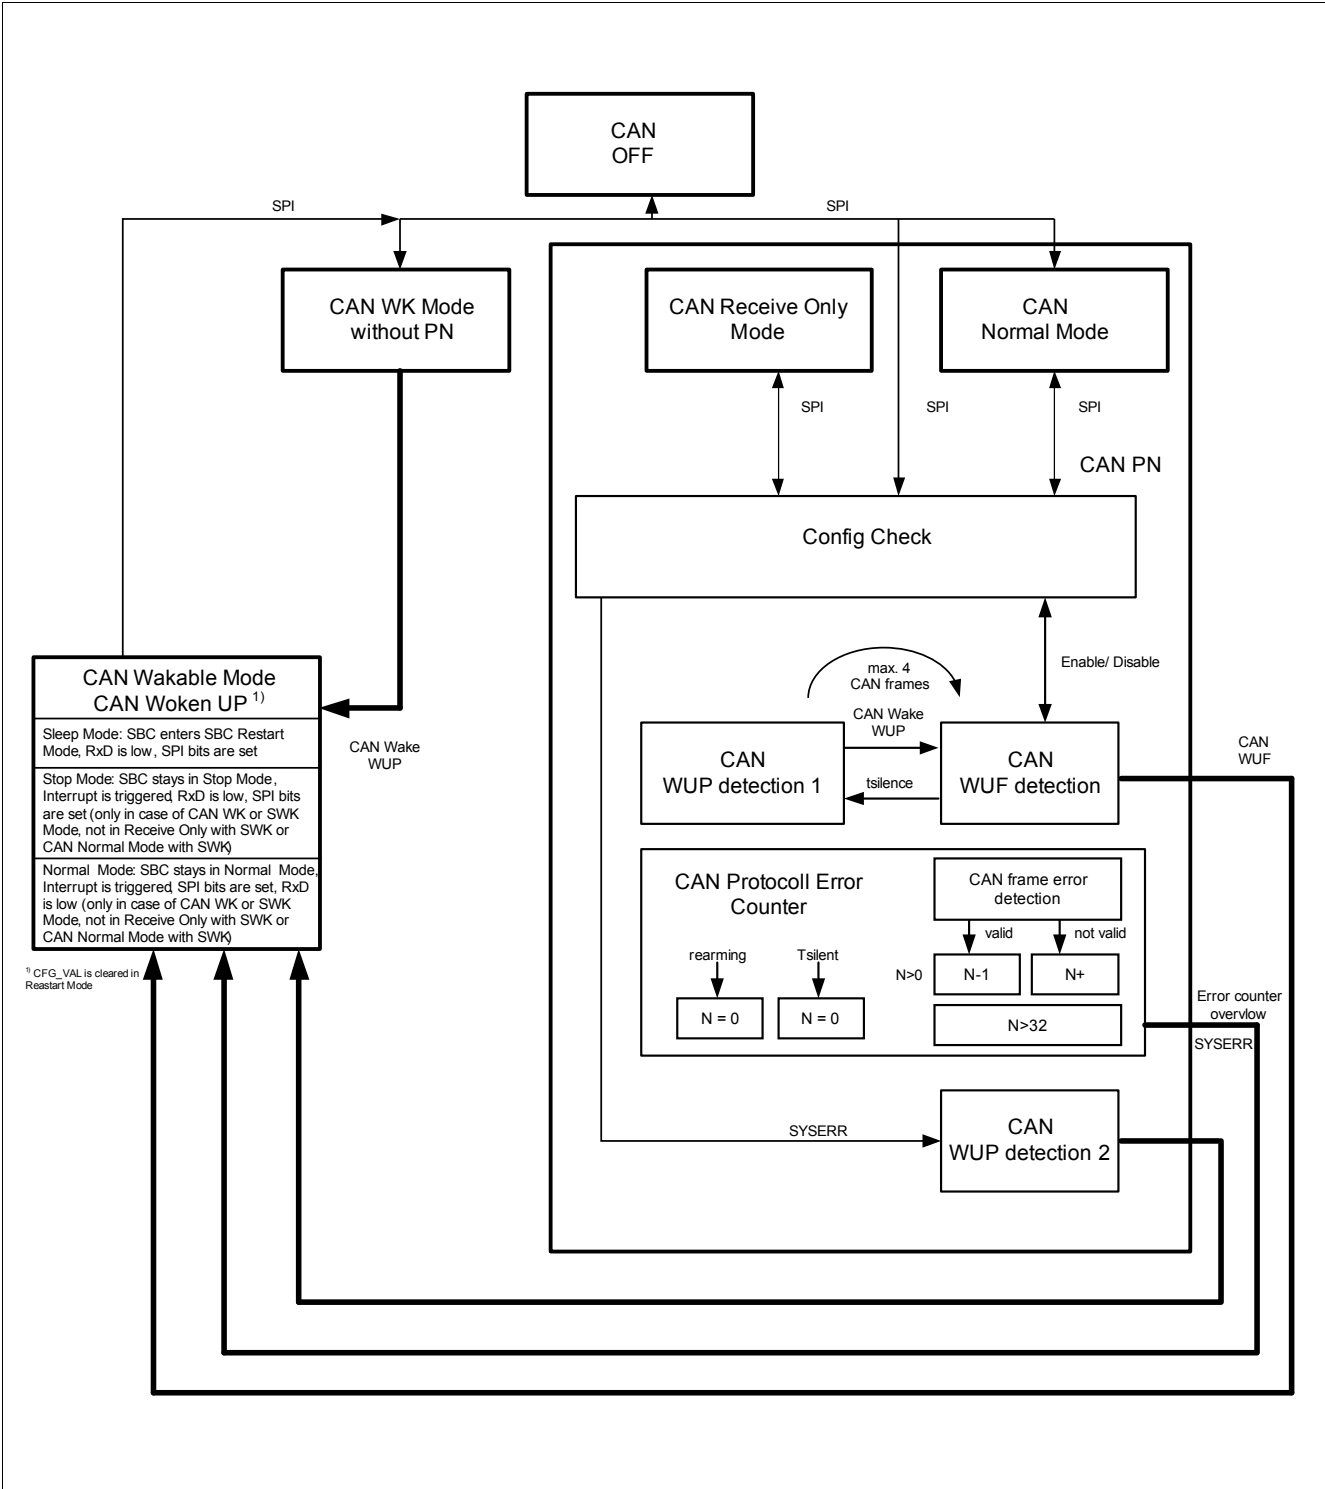

Figure 11 CAN Selective Wake State Diagram
*Note: It is possible that WUF and WUP bit are set at the same time if a WUF causes a wake out of SWK, by setting the interrupt or by restart out of SBC Sleep Mode. The reason is because the CAN has been in WUP detection 1 state during the time of SWK mode (because of t_{SILENCE}). See also **Figure 11**.*
The SWK_SET bit is set to signalize the following states (see also **Figure 11**):